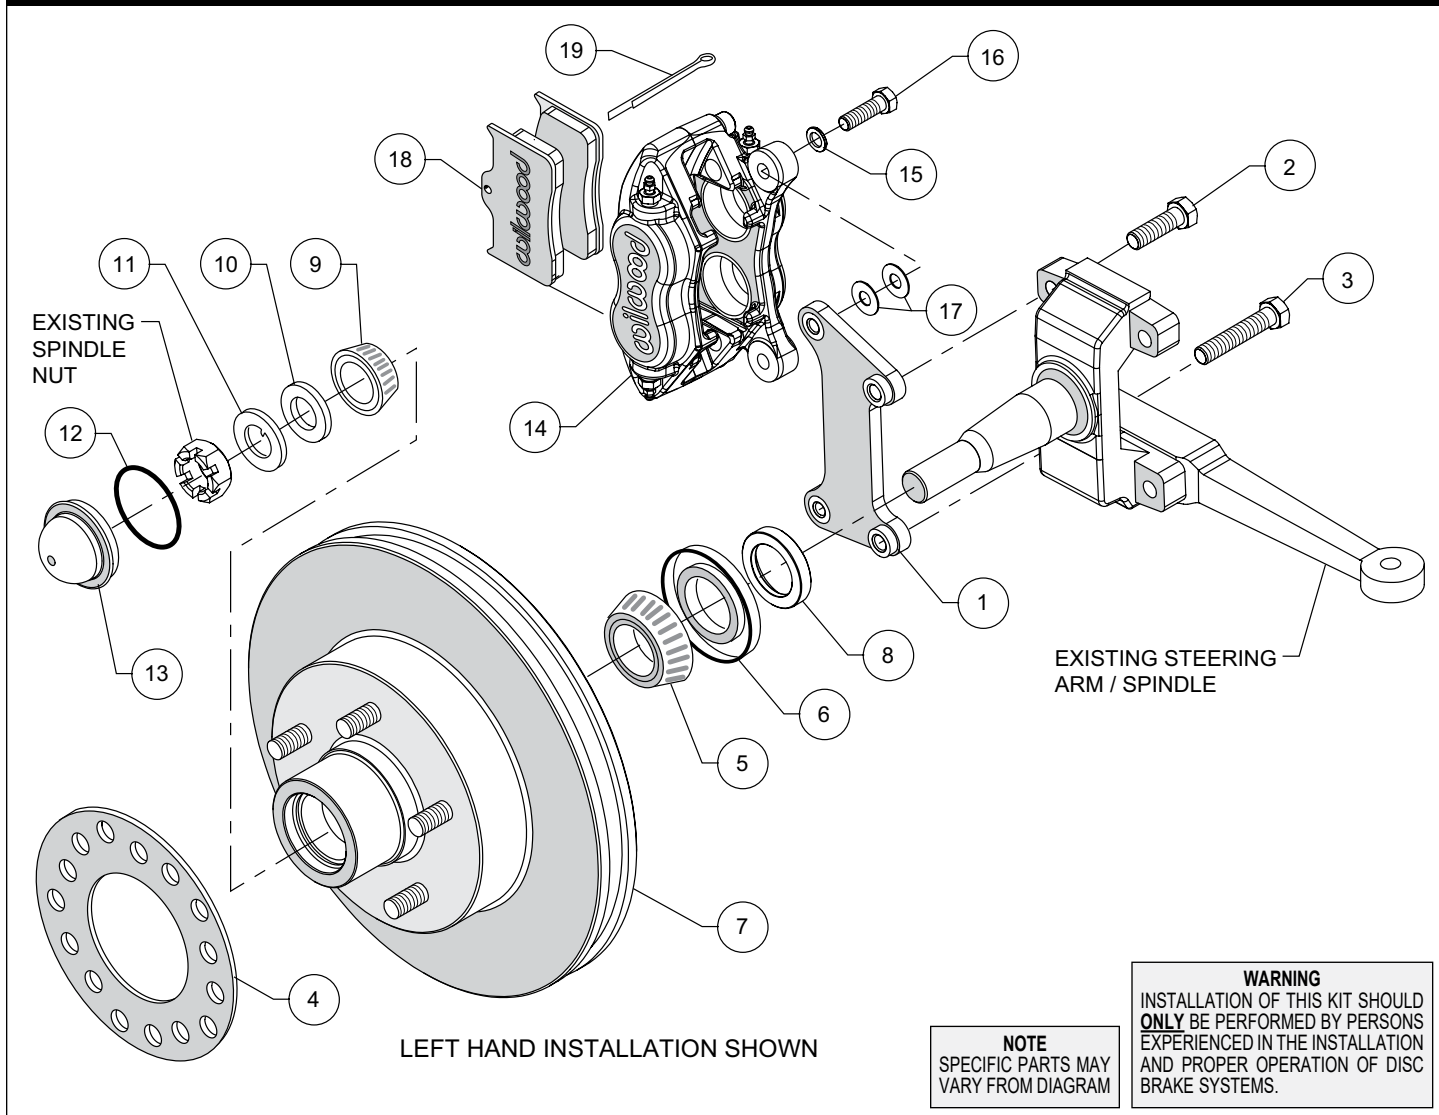
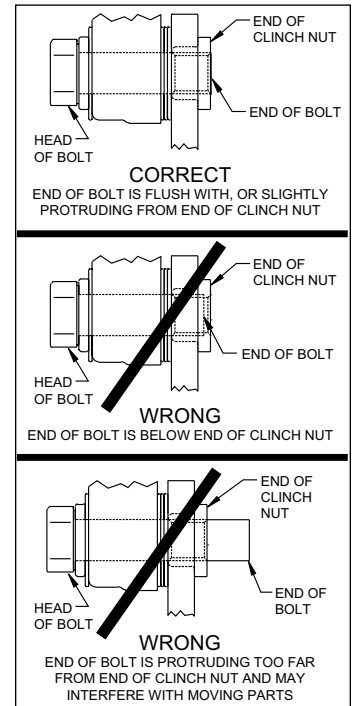

Figure 1. Typical Installation Configuration
Figure 3. Clinch Nut Engagement Diagram
NOTE: Numbers in parenthesis refer to the parts list and Figure 1 on the preceding pages.
CAUTION: All mounting bolts must fully engage clinch nuts. Be sure to check that all bolts are either flush or protruding through flanged side of clinch nut after shimming, Figure 3.
- Orient the caliper mount bracket (1) as shown in Figure 1 and Photo 1, and install using bolts (2/3). Ensure that the flanged heads of the clinch nuts in the bracket are facing outboard, Photo 1. Temporarily tighten the mounting bolts. **NOTE:** The bracket must fit squarely against the mount bosses on the upright. Inspect for interference from casting irregularities, machining ridges, burrs, etc. Remove bolts one at a time, apply red *Loctite*® 271 to the threads and torque to 60 ft-lb.
- Pack the large inner bearing cone (5) with high temperature disc brake bearing grease (available from your local auto parts store) and install into the backside of the hub (7), Photo 2.
- Install the grease seal (6) by pressing into the backside of the hub (7), flush with the end of the hub.
- Slide the hub/rotor spindle spacer (8) onto the spindle. Ensure the chamfered I.D. faces inward, Photo 3.
- Pack the small outer bearing cone (9) with high temperature disc brake bearing grease and install into hub (7). Slide the hub/rotor onto the spindle. Slide spindle spacer (10) onto the spindle and into the hub, Photo 4. Secure using spindle washer (11) and OEM spindle nut. Adjust bearings by tightening the wheel bearing nut to 60 **in-lbs.** while turning the hub/rotor assembly. Back off the adjusting nut one slot and install a new cotter pin (not supplied). **The resulting adjustment should be zero (no pre-load to 0.003 inch end play).**
- Install the o-ring (12) onto the dust cap (13). Press the dust cap into the hub (7) until o-ring is lightly compressed. **NOTE:** O-ring is a spacer to ensure spindle pin does not make contact with cap.
- NOTE:** Please reference the caution statement at the beginning of the assembly instructions. Mount the caliper (14) onto the caliper mounting bracket (1) using bolts (16) and washers (15), as shown in Figure 1. Initially place two .035" thick shims (17) on each bolt between the caliper and the bracket, Photo 5. Temporarily tighten the mounting bolts and view the rotor (7) through the top opening of the caliper. The rotor should be centered in the caliper, Photo 6. If not, adjust by adding or subtracting shims between the bracket and the caliper. Always use the same amount of shims on each of the two mounting bolts. **NOTE:** The end of each bolt must be flush with or slightly protruding from the head of the clinch nut, as shown in Figure 3. If necessary place spare shims between washer (15) and caliper mounting ear to achieve the proper clinch nut engagement. Once the caliper alignment and clinch nut engagement are correct, remove the bolts one at a time, apply red *Loctite*® 271 to bolt threads, and torque to 40 ft-lb.